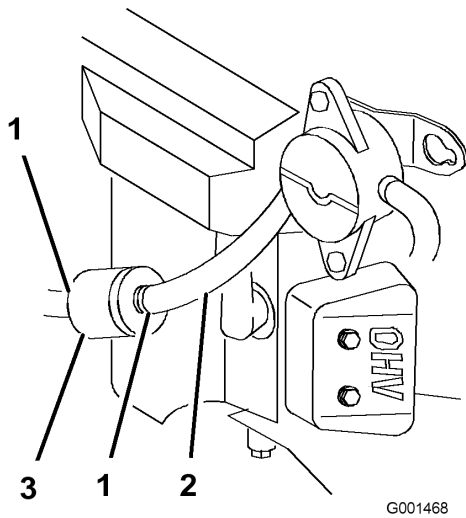

Figure 28
4. Squeeze the ends of the hose clamps together and slide them away from the filter (Figure 28).